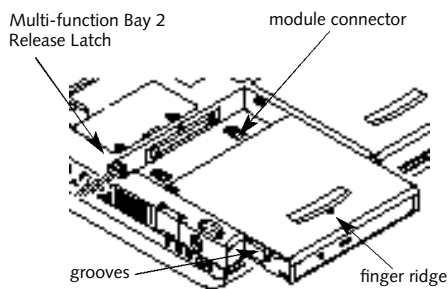

Figure 4-3 Removing and Installing a Device in Multi-function Bay 2
5. **With the module connector toward the back of your notebook align the grooves on the side of the device with the tracks in the side of the bay.** (Figure 4-3.)